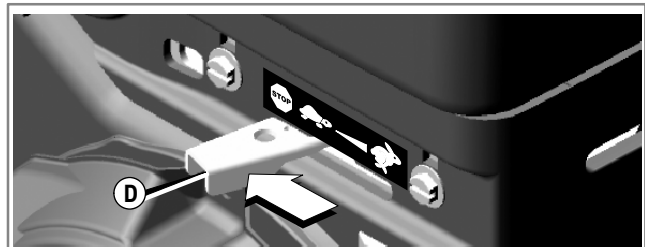
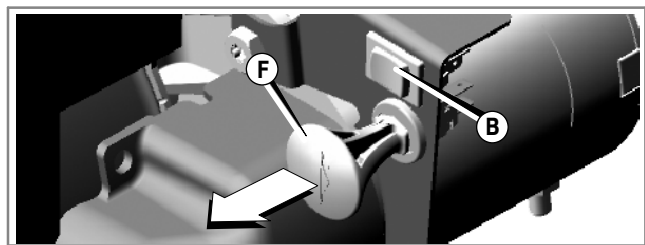

Figure 12: Throttle Control Lever
Figure 13: Safety Key and ON / OFF Switch
1. **Rewind Start** - On models equipped with a throttle control lever, move the throttle control lever (D) to SLOW  and then to the STOP  position (see Figure 12). On models equipped with an ON/OFF switch (B), first move the throttle control lever to the SLOW position and then move the ON/OFF switch to the OFF position (Figure 13).
2. **Electric Start** - First move the throttle control lever (D) to the SLOW position and then move the ON/OFF switch (B) to the OFF position (Figure 13).
3. Remove the safety key (F). (Figure 13). Store the safety key out of reach of children.